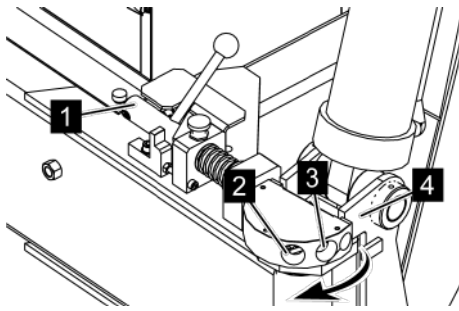

Fig. 85: Working positions
3. ➔ Swivel the outrigger (Fig. 85/4) far enough that the latching bolt (Fig. 85/1) is in front of the hole for the narrow (Fig. 85/3) or wide (Fig. 85/2) working position.